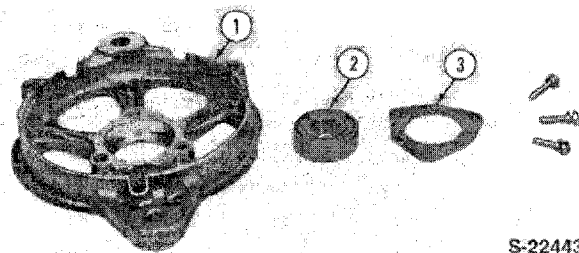

Figure 83
6. Remove the three bolts and retainer (3), Figure 83, and remove the ball bearing.